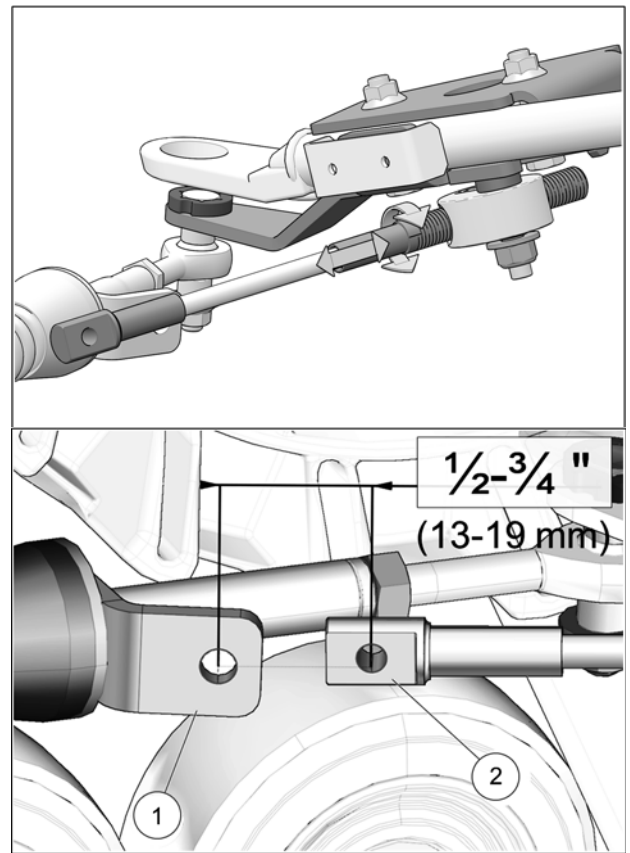

Fig. 24
13. Turn the vehicle's steering wheel to its maximum point of travel on the left. While maintaining pressure on the steering wheel, turn threaded rod to adjust length of cable so that the cable end hole (1) is located 13 to 19 mm [$\frac{1}{2}$ to $\frac{3}{4}$ in.] short of the mounting hole on the support plate (2). See Fig. 24